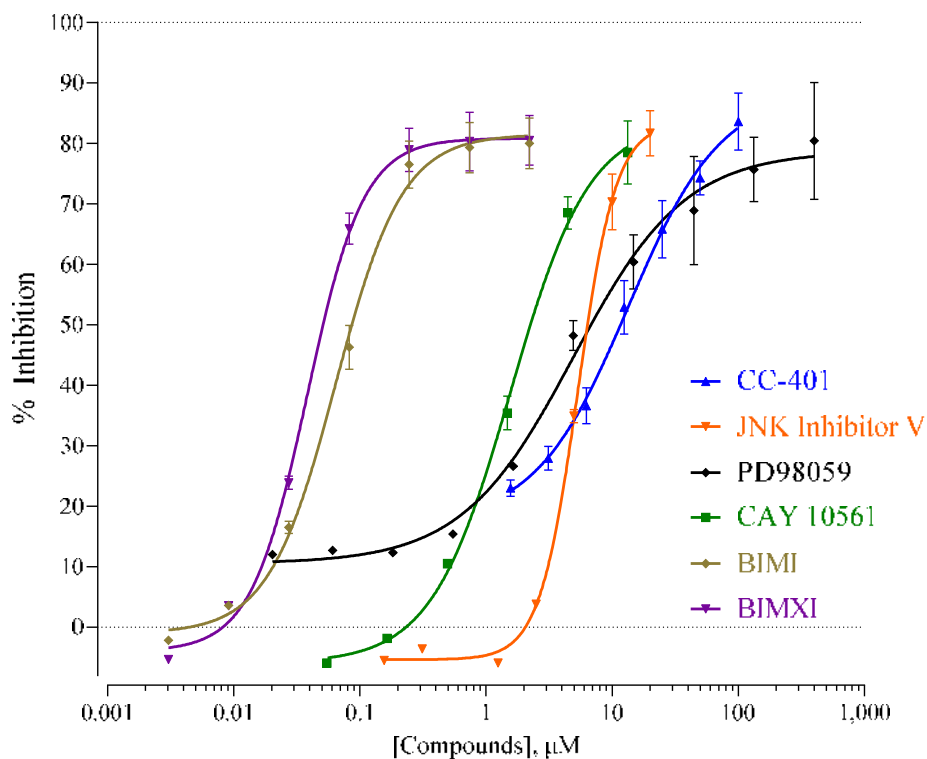

Figure 3. Dose-dependent inhibition of AP-1.
- *Optional:* AP-1 inhibitor reference compound (refer to Figure 3)